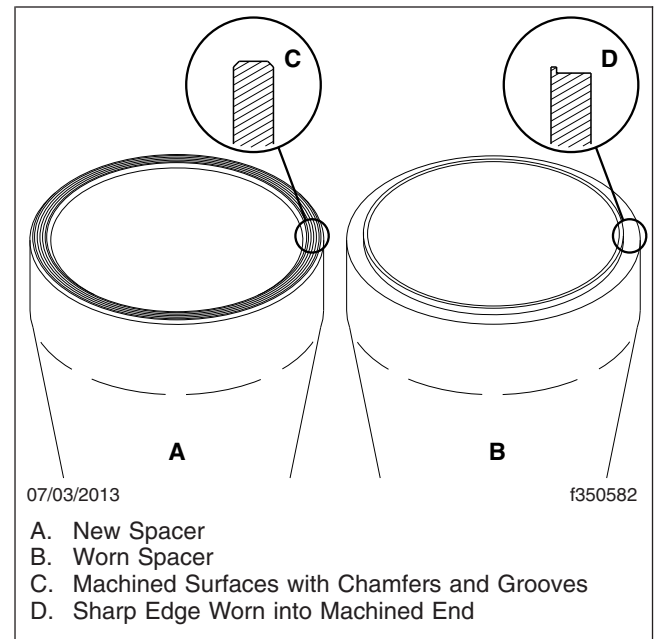

Fig. 11, Comparison of New and Worn Bearing Spacers
2. Inspect the bearing spacer for signs of wear or damage. Look for a sharp ring of standing metal that has been worn into the spacer at either end; see Fig. 11. If the spacer is worn or damaged, replace it.